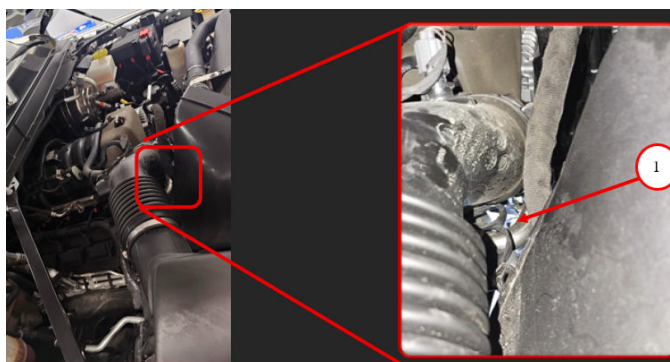
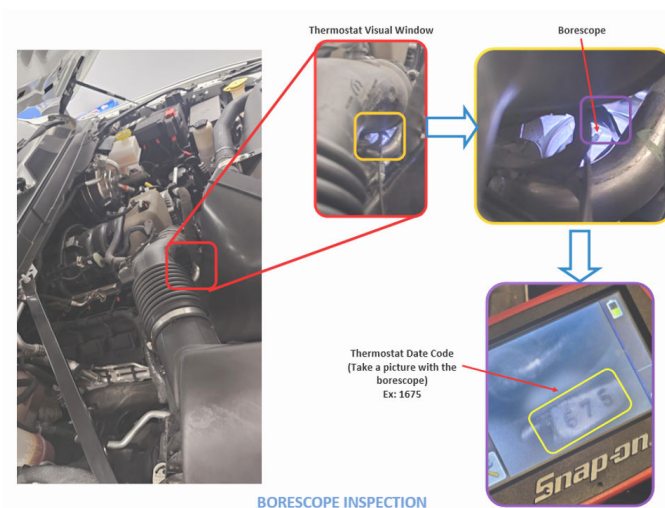

Fig. 1
Fig. 2
3. Check the thermostat date code using a borescope and take a picture of the date code Fig. 1, Fig. 2: